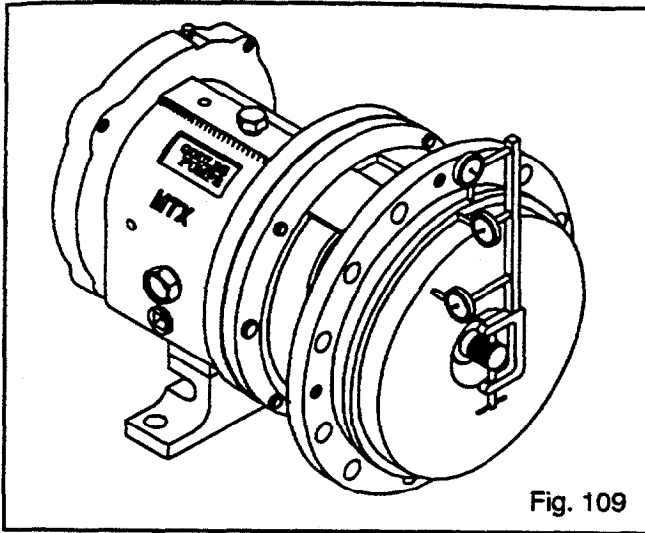

Fig. 109
2. Check seal chamber cover run-out. Rotate indicator through 360 degrees. If total indicator reading is greater than 0.005 in. (.13 mm), determine cause and correct before proceeding (Fig. 109).